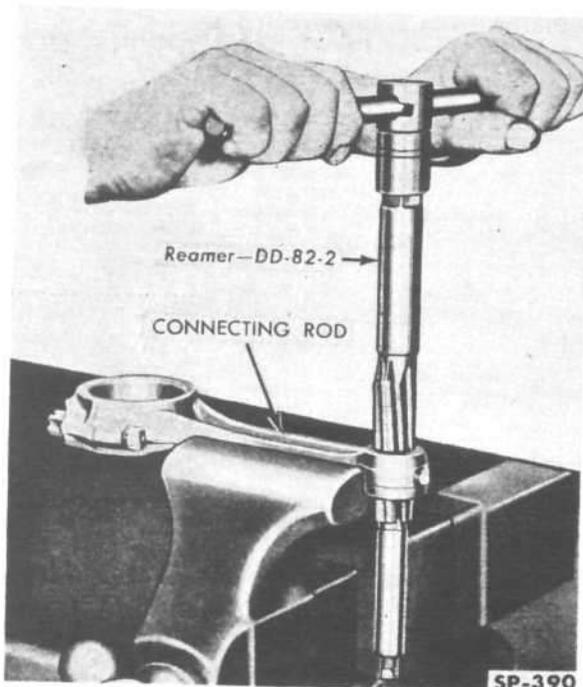

FIG. 39—REAMING CONNECTING ROD BUSHING
- After checking the piston pin fit in the piston, check its fit in the connecting rod bushing. The pin should just slip through the bushing under its own weight. If the pin is too tight, ream the inside diameter of the bushing with Piston Pin Reamer DD-82-2 (Fig. 39) to